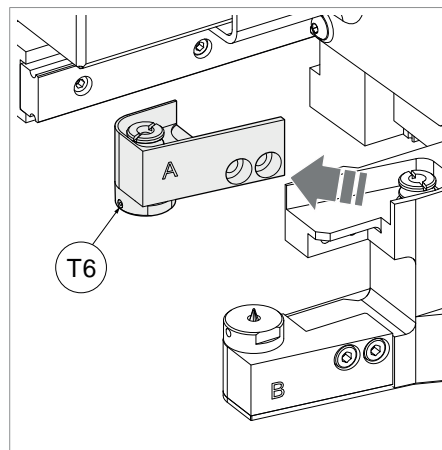

Fig. 154
- 7) Remove the two front screws (T5) to take out the cutter support (Fig. 154).